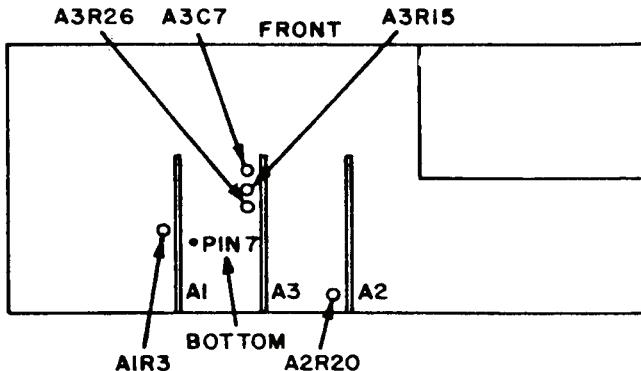

Figure 1. Test oscillator top view adjustments.
(1) Adjust **AMPLITUDE** control for an indication of 10.0 V on true rms voltmeter.
(2) Adjust A3R15 (fig. 1) for an indication of 10.0 V on output meter (R).
(3) Adjust A3C7 (fig. 1) for an indication of 10.0 V on output meter (R).
(4) Adjust **AMPLITUDE** control for an indication of 20.0 V on true rms voltmeter.
(5) Adjust A3R26 (fig. 1) for an indication of 20.0 V on output meter (R).
b. Adjustments. Set frequency dials to indicate 10.00 kHz. Adjust A2R20 (fig. 1) for minimum distortion on audio analyzer.
- (1) Connect multimeter between A1 PIN 7 (fig. 1) and signal ground.
- (2) If multimeter does not indicate between -35.5 V dc and -36.5 V dc, perform **b** below.
- a. Adjustments.** Adjust A1R3 (fig. 1) for a -36.0 V dc indication on multimeter (R).